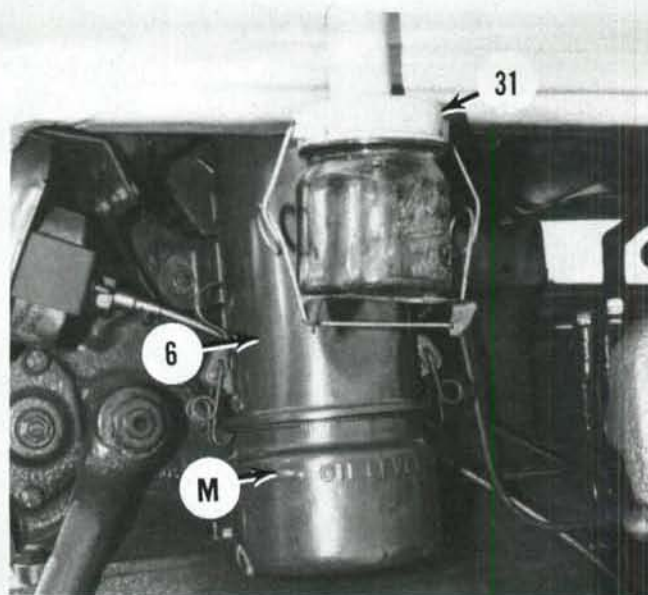

Fig. FO6—Air cleaner (6) is mounted on right side of tractor on all models. Air cleaner cup should be filled with clean engine oil to oil level mark (M).
6. An oil bath type air cleaner is used on all models (6—Fig. FO6). Air is drawn into the air cleaner and directed downward toward the oil in the cup attached to the bottom of the air cleaner body, then upward through the filtering element into the carburetor. Heavy particles of dirt are trapped by the oil in the cup, smaller particles not retained in the oil cup are screened out by the filter element in the air cleaner body. If the oil in the cup becomes thick and gritty, the air cleaner filter element will become restricted and cause a drop in the volume of air reaching the engine,
On the 8N tractor, a screened breather entrance is located on the outside of the right rear corner of the hood. A centrifugal type (Cyclone) attachment (31—Fig. FO6) was made available for 8N tractors which whirled the incoming air and collected the dry dust in a glass container where it could be emptied as the container became full.
The air cleaner cup should be removed and inspected every ten hours of operation, or more often under extremely dusty conditions. If oil in the cup is dirty, clean the cup and refill with fresh engine oil (same viscosity as used in engine crankcase) to the full mark (M—Fig. FO6) indicated on the cup.